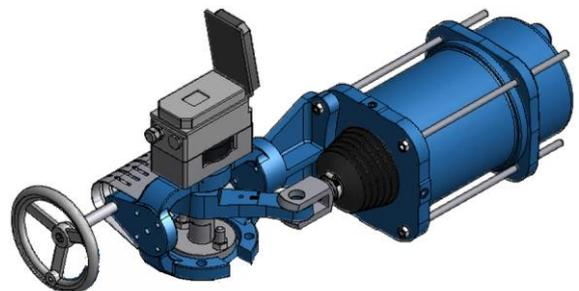

Fig. 9: Actuator with bracket and handwheel
- Handwheel up to size R200 (Fig. 9)